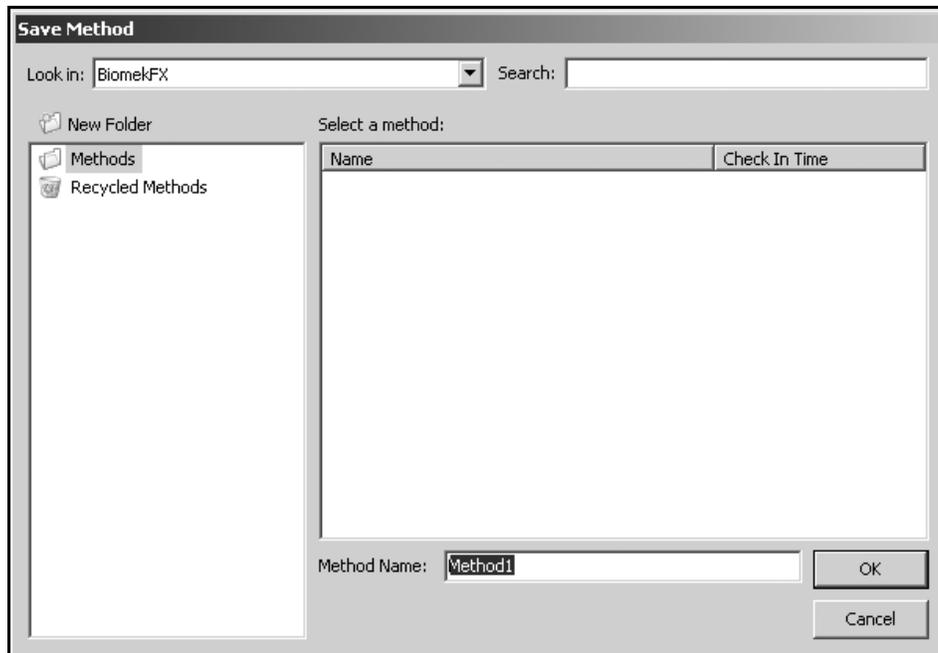

Figure 2-18. Save Method
1. Choose **File>Save** from the toolbar. Save Method appears (Figure 2-18).